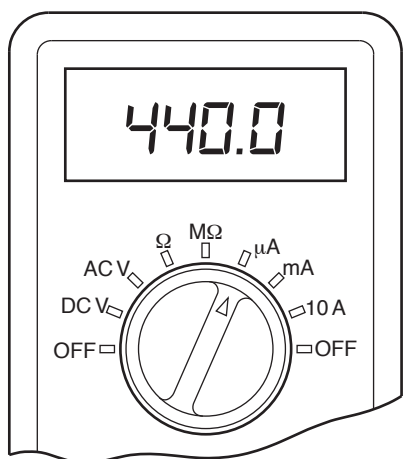

Fig. 18a
- (iv) Fig. 18a shows the current flow through the thermistor being measured using a multimeter.
- the reading in Fig. 18a converted to milliamps. [2]